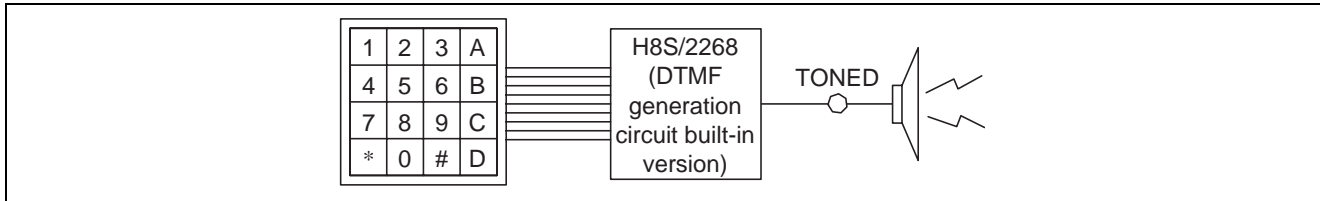

Figure 1 Configuration for Sample Task
- (1) The DTMF generation circuit is used to output DTMF signals.
- (2) A 4 × 4 keypad is connected to the H8S/2268 and DTMF signals corresponding to the depressed keys are output.
- (3) The DTMF signals are output from the TONED pin.
- (4) The configuration for this sample task is shown in figure 1.